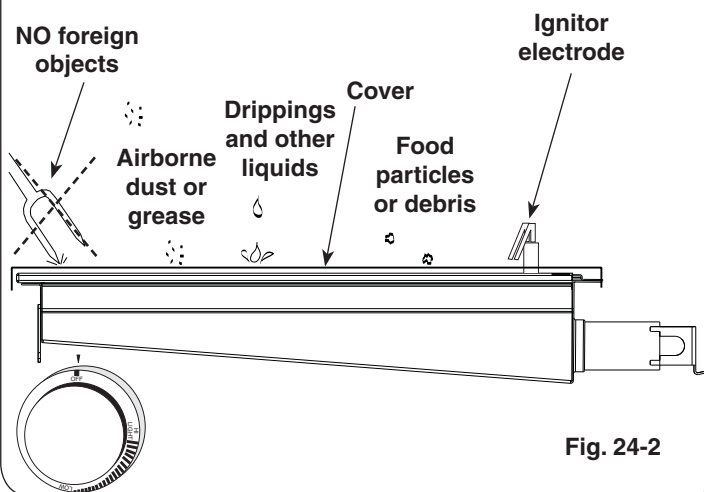

Fig. 24-2
- When not in use, **always** cover the infrared burner with the stainless-steel cover. This protects the burner from drippings (from other cooking), airborne particles, and foreign objects (Fig. 24-2).
- Do not strike or scratch the burner ceramic as it may chip, crack, or break (Fig. 24-2).